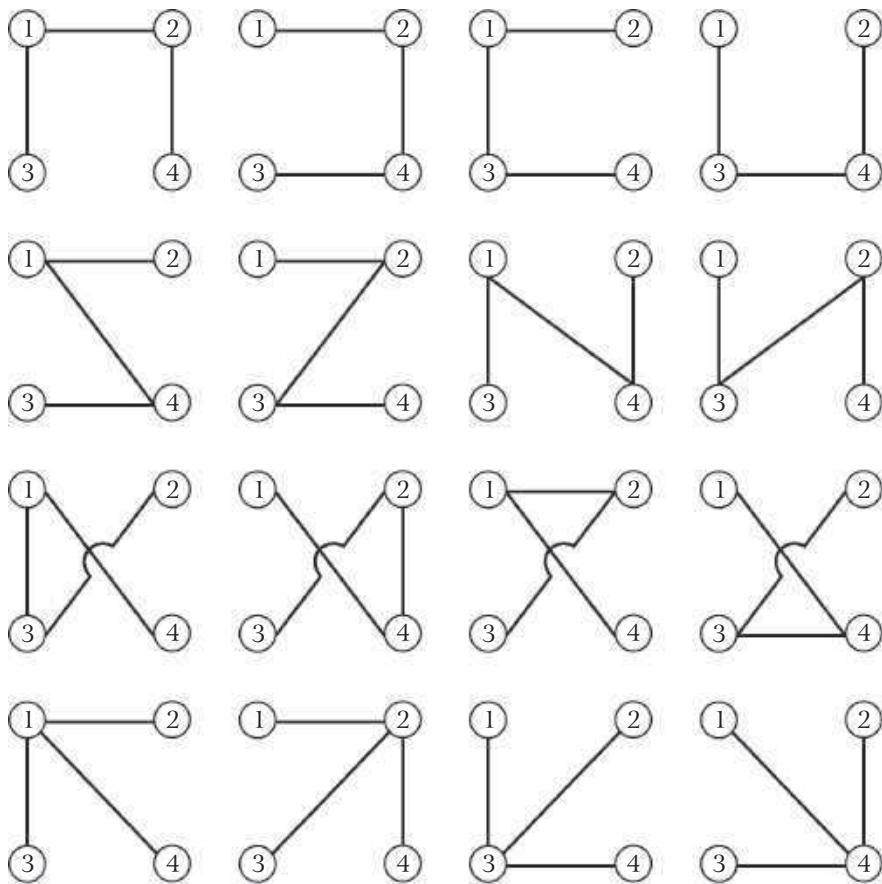

Fig. 8.5
3. For $n=4$, the total number of spanning trees $= 4^{4-2} = 16$, as shown in fig. 8.5.